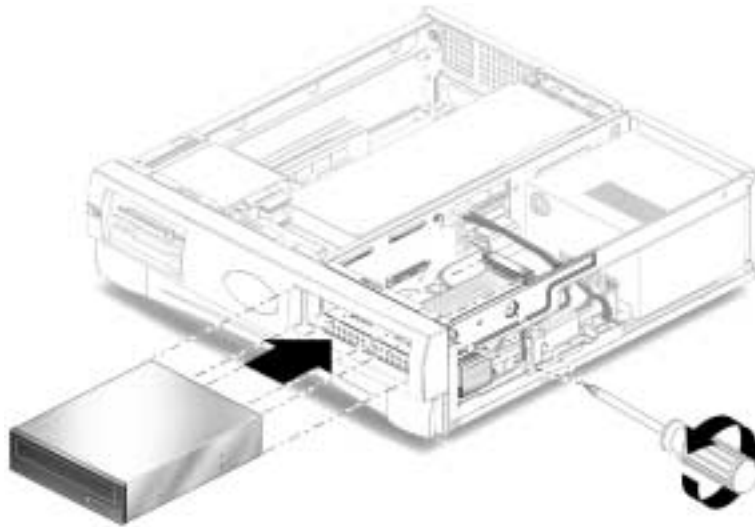

FIGURE 2 Removing and Replacing a CD-ROM or DVD-ROM Drive
3. Remove the following from the back of the CD-ROM or DVD-ROM drive (see FIGURE 2):
1. Position the CD-ROM or DVD-ROM drive in the chassis (see FIGURE 2).